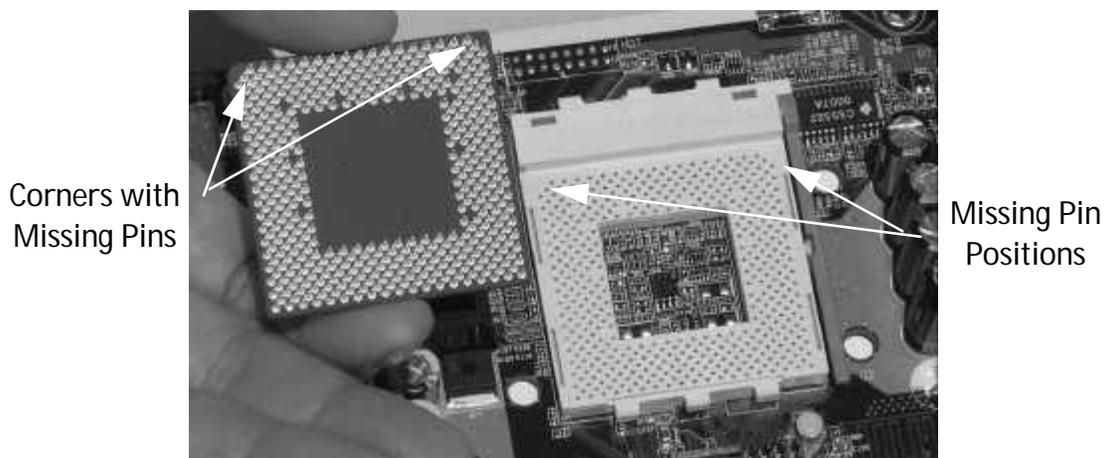

Figure 3. Underside of the Processor Showing Pin Corner Keys
3. Figure 3 shows the underside (pin side) of the processor. Notice how the pin array at the two upper corners in the picture are angled and there are no pins in either top corner. Notice also that there are no pin positions in the top corners of the socket (near where it is labeled "Socket 462"). The processor must be positioned so the processor and socket pin patterns match. When positioned properly, the 45° cut corner of the processor will be next to the release pivot.